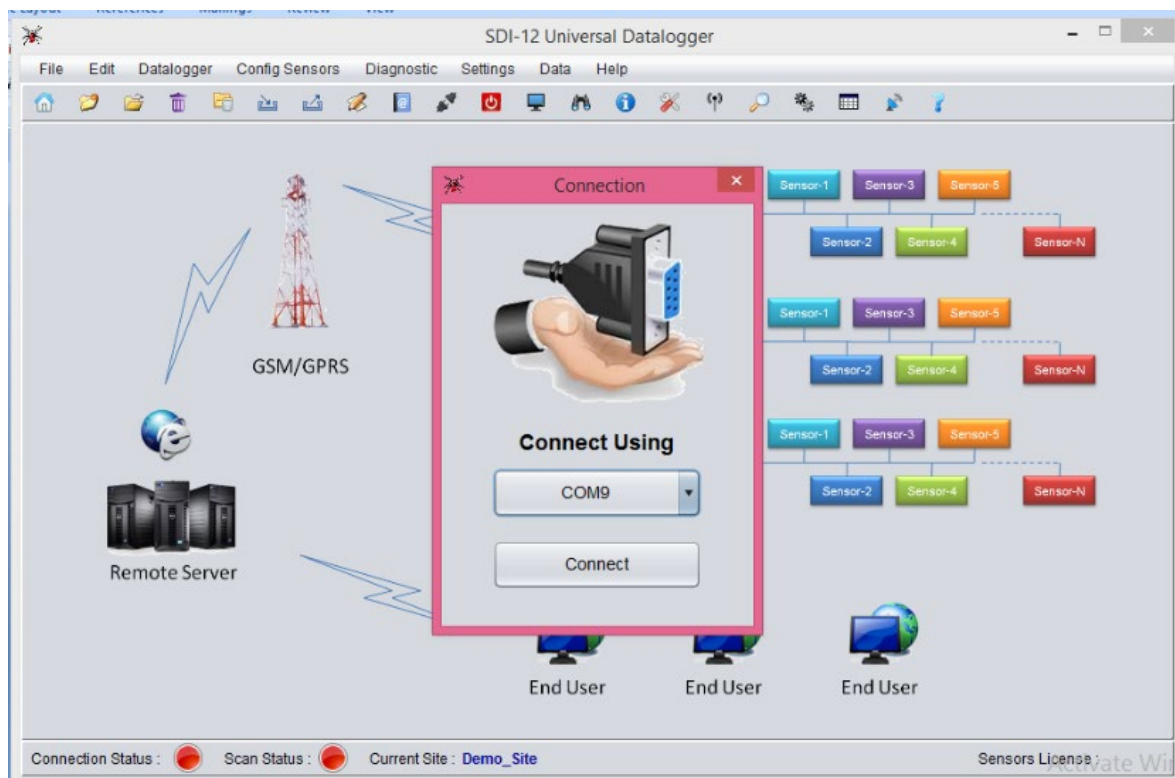

Figure 7-4 Dalalogger connection window of EDSL-30UNI Configuration Manger Software
- 4 After clicking “Connect/Disconnect Datalogger”, a “Connection” window will appear as shown below. Select the usable “Com port” and then click “Connect” (figure 7-4).